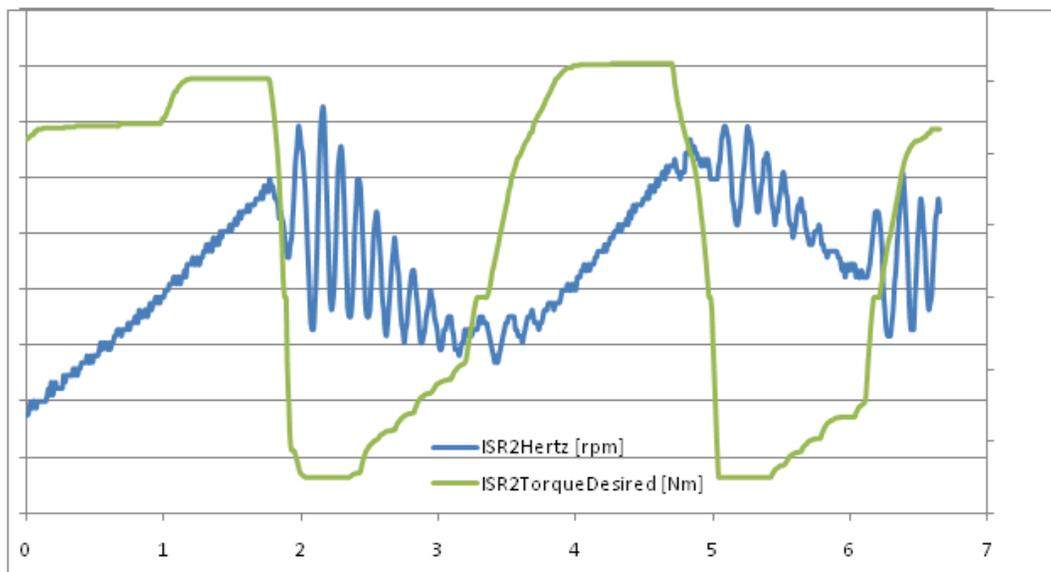

Figure 17: Example Torque Step Test Results Without Damping Enabled
An example of this type of oscillation can be seen in Figure 17. The x-axis is time in seconds. You can see the speed oscillate at approximately 10Hz after each rapid torque change request.
- v. Your ccShell scope capture may be similar to Figure 17.